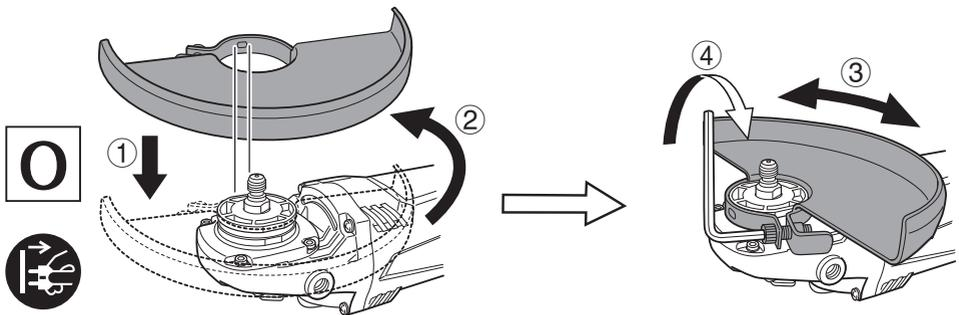

Fig. 1
1. Fitting and adjusting the wheel guard (Fig. 1)